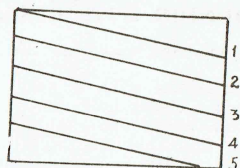

Fig 1
1. **Sequential.**—This process starts from the top left hand corner of the pictures, and traverses a path roughly like Fig. 1.